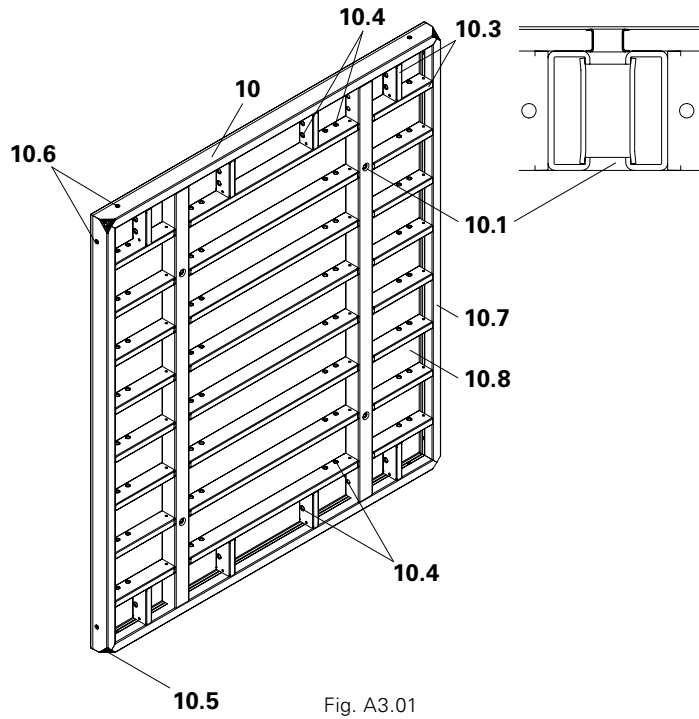

Fig. A3.01
- 10 Panel (Fig. A3.01 + A3.02)